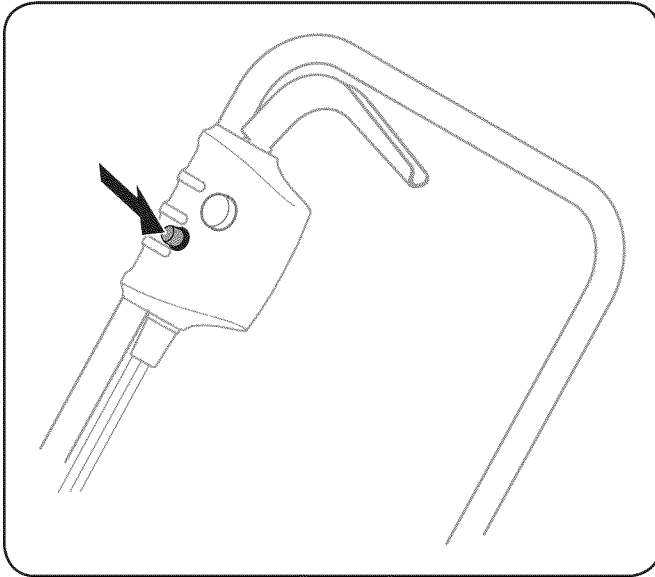

Figure 6-1
2. Press the circuit breaker reset button (located on the switch assembly) inward to reset. See Fig. 6-1.